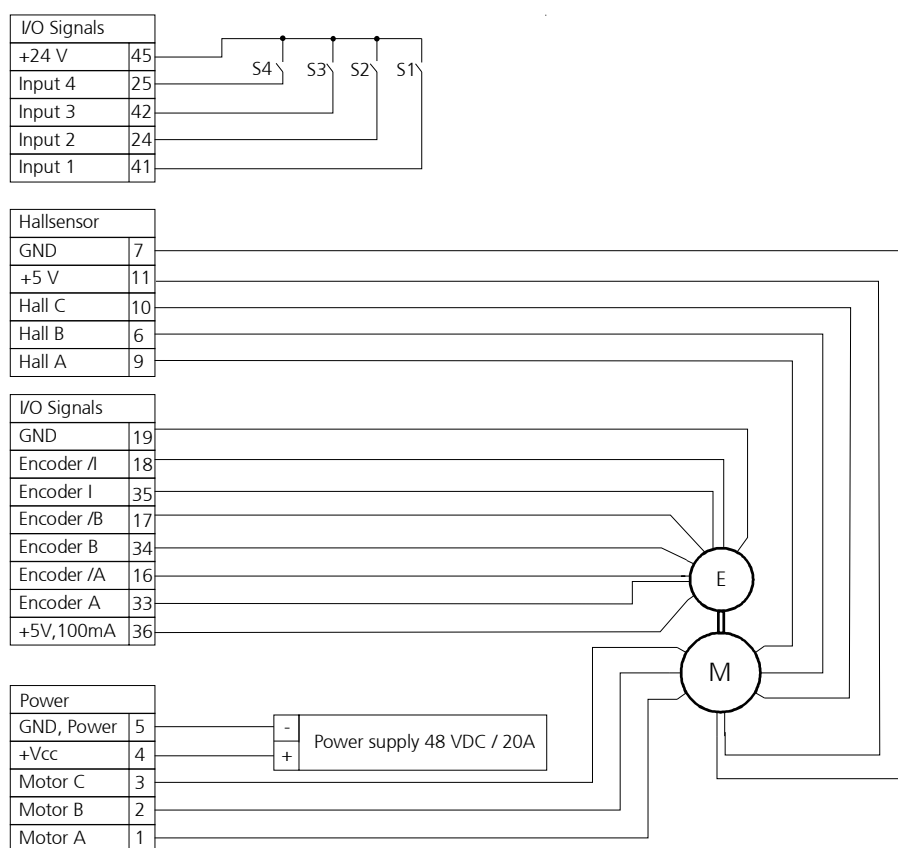

Figure 15
1. Connect the motor cables with a motor control unit (see Figure 15).